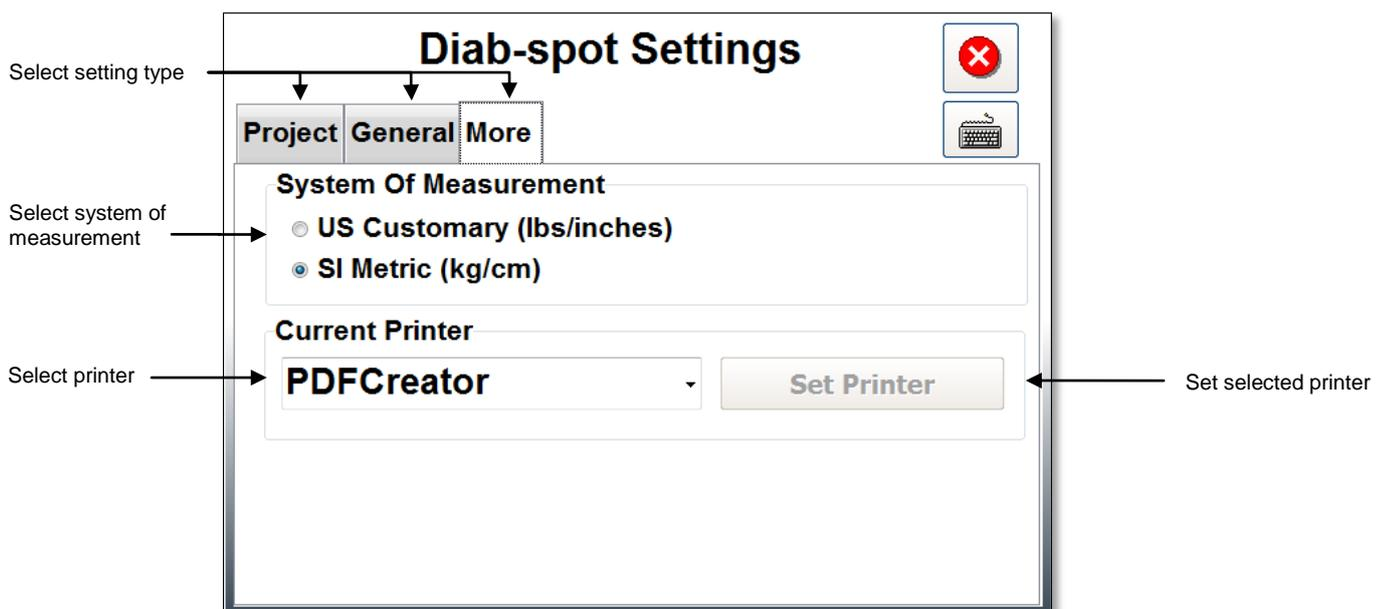

Figure 11. Diab-spot More settings screen
3. *More settings*, these set the system of measurement and the printer (figure 11).
By selecting the ‘More Settings’ tab, the menu will appear (figure 11).